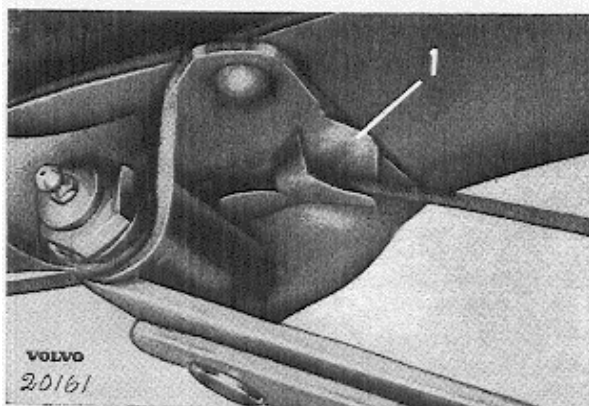

Fig. 10. Forward rear spring attachment
1. Turn the spring so that the half which has only one clip is to the rear. Make sure that the hand-brake cable is in its bracket (1, Fig. 10).
When replacing spring attachments, make sure that the rivets and rivet holes have the correct dimensions and that the rivets tighten properly. Out-of-round holes should be reamed out and thicker rivets used. The forward rear spring attachment should be turned so that the bracket (1, Fig. 10) for the hand-brake cable is on the inside towards the centre of the frame.